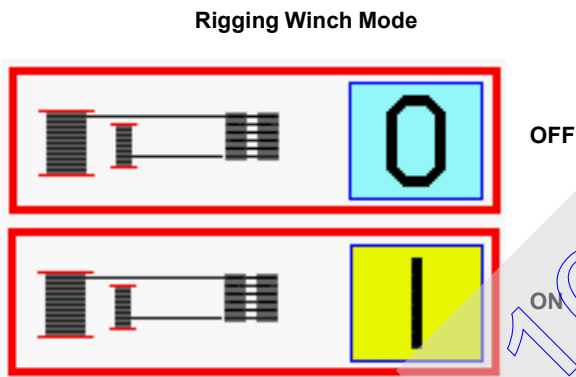

FIGURE 4-46
See Figure 4-46 and Figure 4-47 in the following procedure.
2. In **level 2**, use the select buttons to enter selected drum screen options. Select rigging winch data box (Figure 4-46).
2. In **level 2**, use the select buttons to enter selected drum options screen. Select rigging winch data box (Figure 4-46).